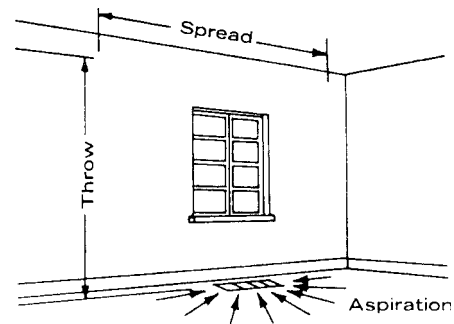

Fig. 14-17 Aspiration, throw, and spread. (Lima)
air within the room. When outlets are properly located along exposed walls, aspiration also aids in absorbing undesirable currents from these walls and windows. See Fig. 14-17.
- *Throw* is the distance (measured in feet) that the air stream travels from the outlet to the point of terminal velocity. Throw is measured vertically from perimeter diffusers and horizontally from registers and ceiling diffusers. See Fig. 14-17.